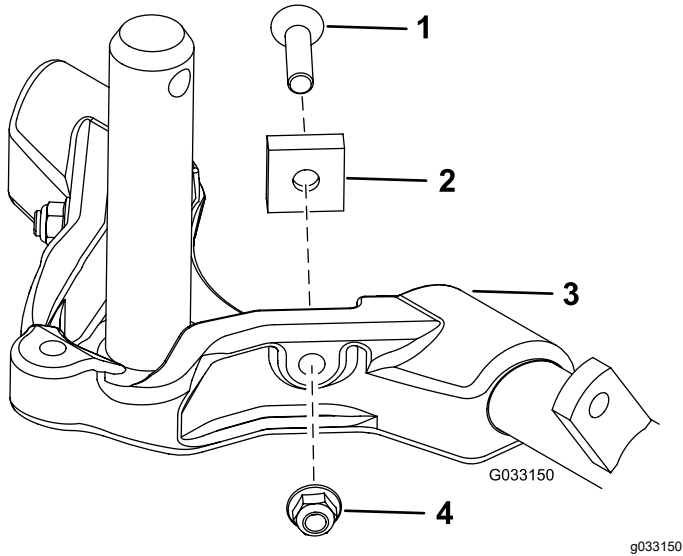

**Figure 14**
**Important:** On Cutting Unit 4 (left front) and Cutting Unit 5 (right front), use the rod-bracket mounting nuts to install the hose guides to the front of the cutting-unit tabs. The hose guides should lean toward the center cutting unit (Figure 12 through Figure 14).